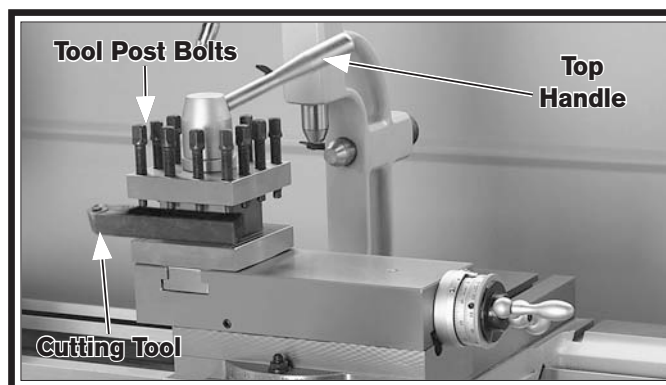

Figure 72. Example of 4-way tool post.
3. Firmly secure the cutting tool with at least two tool post bolts (**Figure 72**).